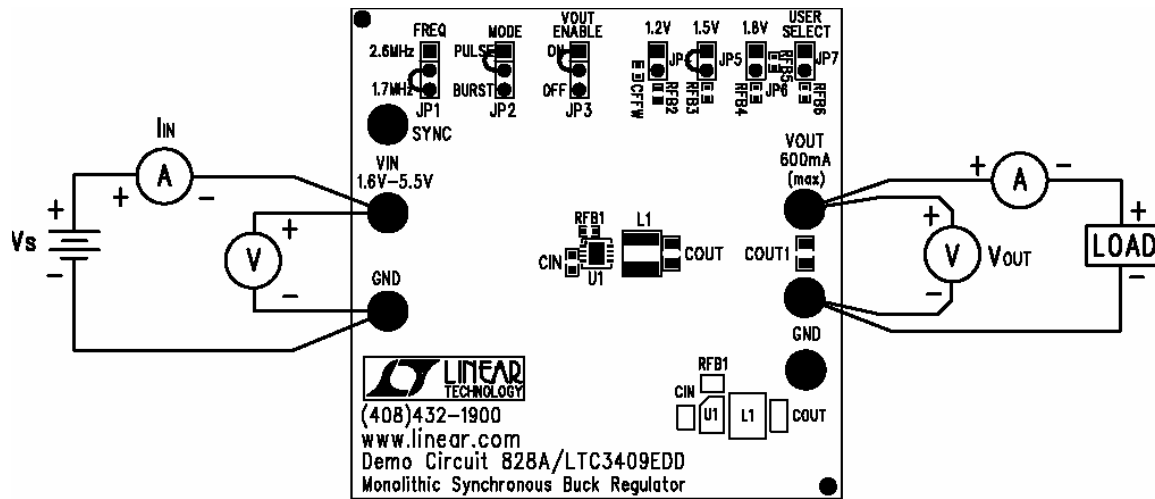

Figure 1. Proper Measurement Equipment Setup
The DC828 demonstration board is easy to set up to evaluate the performance of the LTC3409. For proper measurement equipment configuration, set up the circuit according to the diagram in **Figure 1**. Before proceeding to test, insert jumper JP3 shunt into the off (lower) position, connecting the RUN pin to ground (GND), which shuts down the circuit.
1. Connect the input power supply and the load to the board. Do not hot-plug V_{in} or increase V_{in} over the rated maximum supply voltage of 5.5V, or the part may be damaged. Refer to figure 1 for the proper measurement equipment setup.